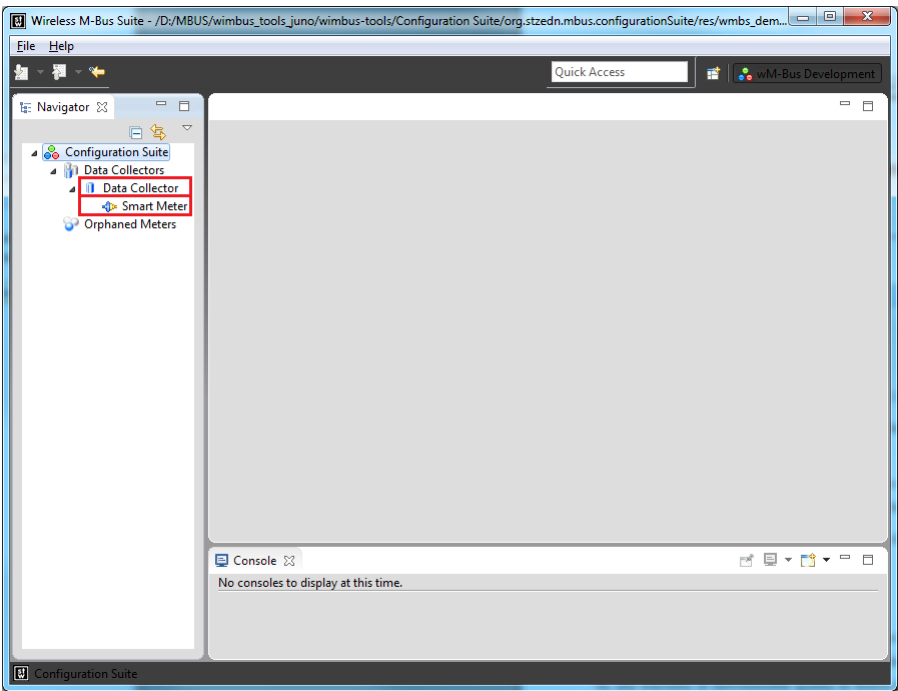

Figure 3.2: Collector and Meter device at the navigation bar
4. Now you can see the 'Data Collector' and the 'Smart Meter' in the configuration suite tree. In figure 3.2, the corresponding items are framed in red.